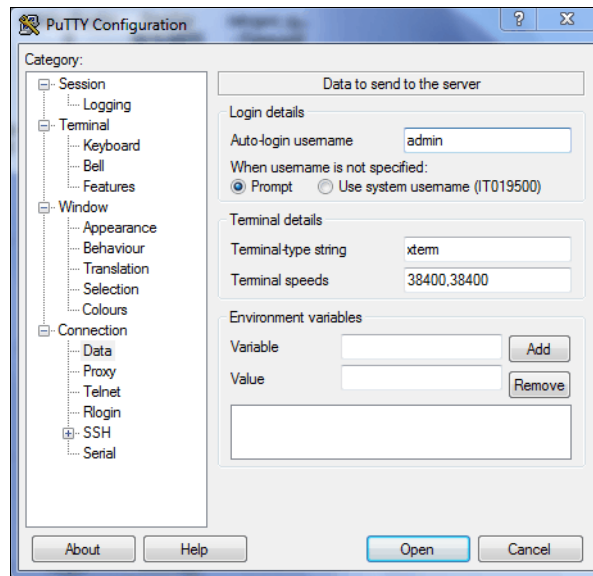

Figure 9-3 Auto-login configuration
- ▶ The *auto-login user name* and setting the auto-login user name to your SAN Volume Controller admin user name (for example, `admin`). Set this parameter under the **Connection** → **Data** category, as shown in Figure 9-3.